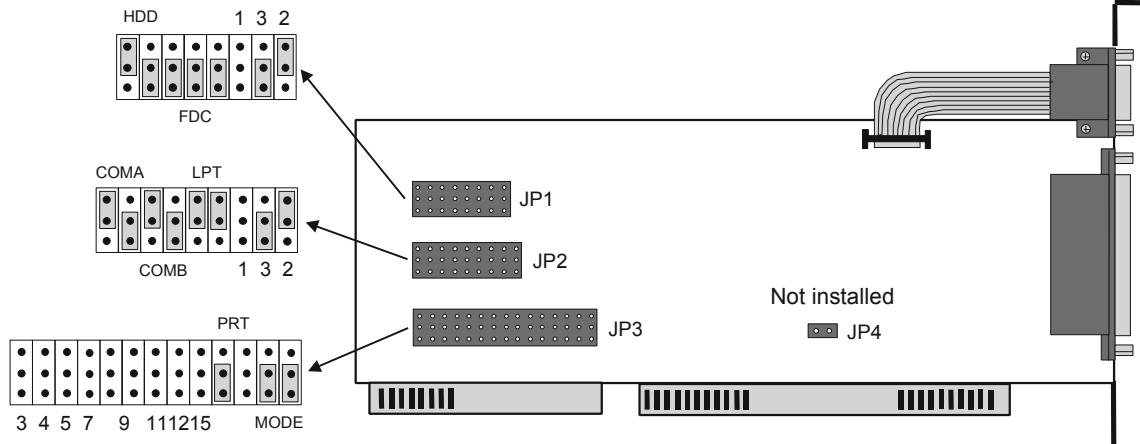

Figure 60. Parallel Printer Card
- ❑ 1. Verify that all of the printer card jumpers are set appropriately. Figure 60 shows the configuration and locations of the critical jumpers. (The jumpers should have been set at the factory, but it is a good idea to double check.)